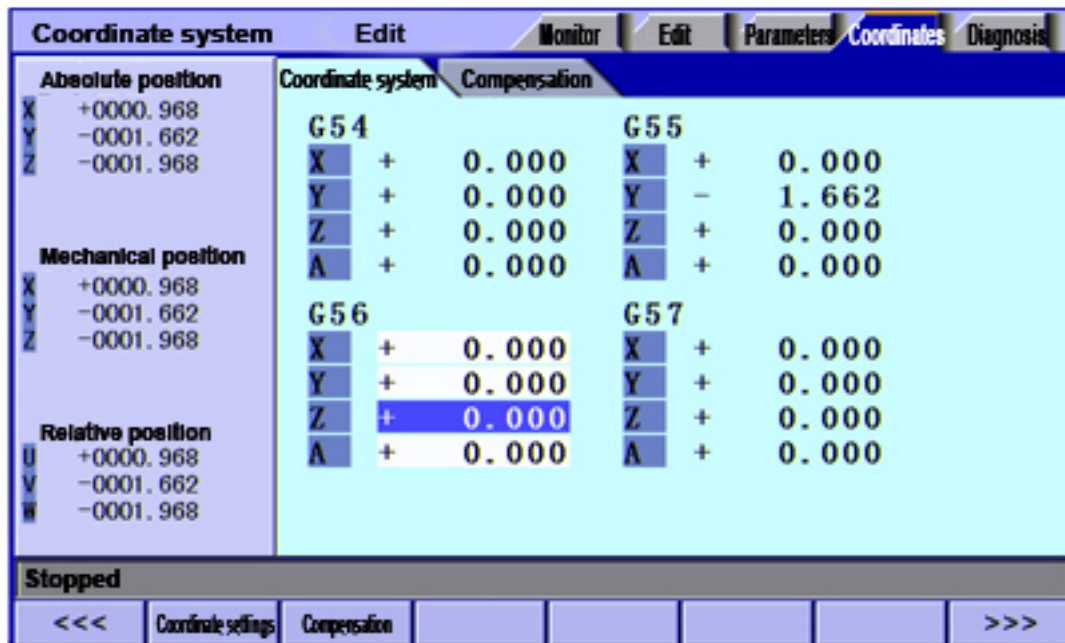
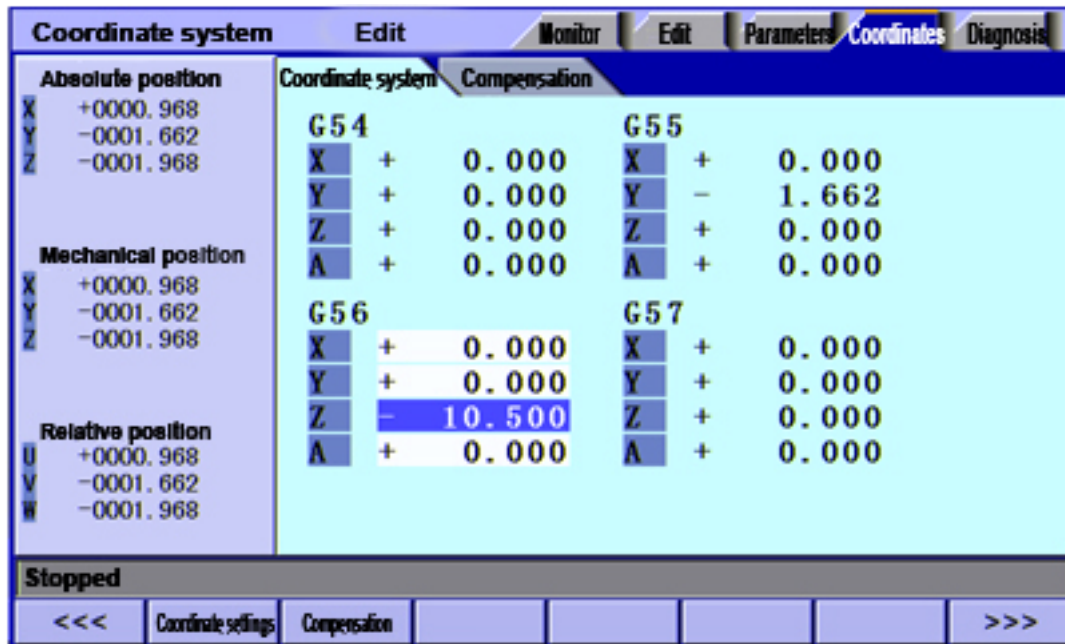

Fig. 4A
Fig. 4B
4. Press **↑+%**, **↓-%** to select a desired axis; to set Z axis of G56 to -10.5, press **↑+%**, **↓-%** to select axis Z, as shown in Fig. 4A, then, press **-**, **1**, **0**, **.**, **5** in sequence, and then press **EOB** to enter -10.5 to Z axis coordinate system, as shown in Fig. 4B.